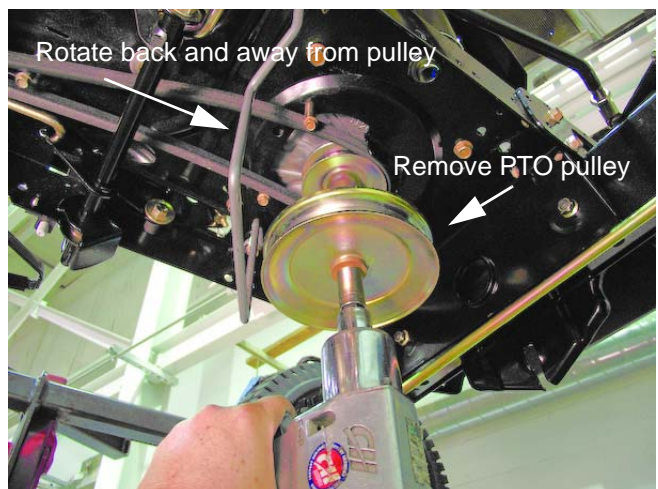

Figure 5.51
- 5b. Pull in on the belt keeper until the wire end is released from the hole in the frame and rotate it towards the rear of the rider. See Figure 5.51.